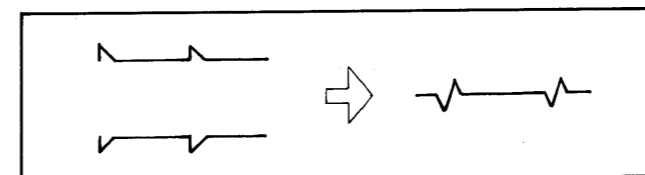

Fig. 26
- While pressing any two keys, adjust OFFSET VR5 of CH1 so that the pulses are minimized. (Fig. 26)
- Repeat steps (1) and (2) for TP4 pins 2-6 (CH2-CH6).